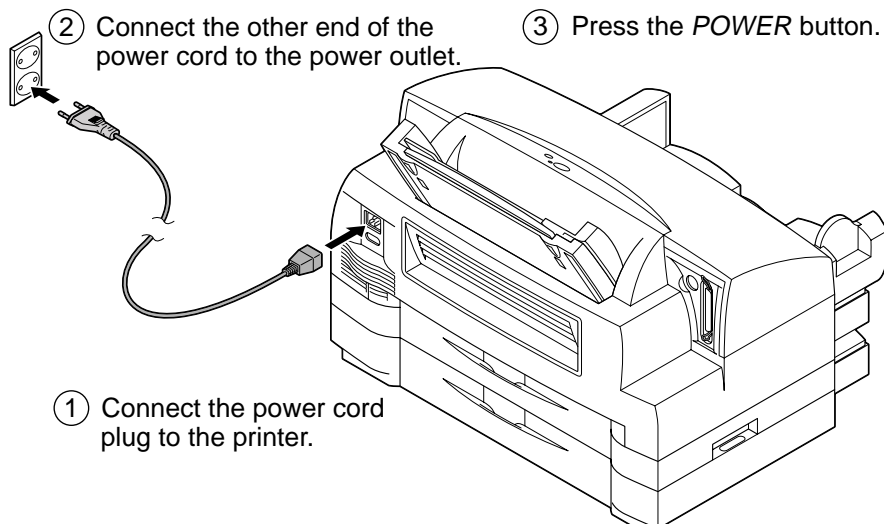

Figure 3-5 Connecting the Power Supply
- 1) Connect the power cord plug to the printer, and then the other end of the power cord to the power outlet. (① and ② in Figure 3-5 below)
- 2) Press the printer *POWER* button (③ in Figure 3-5 below). The printer buzzer sounds four times, and the *POWER* indicator and *ERROR* indicator light.